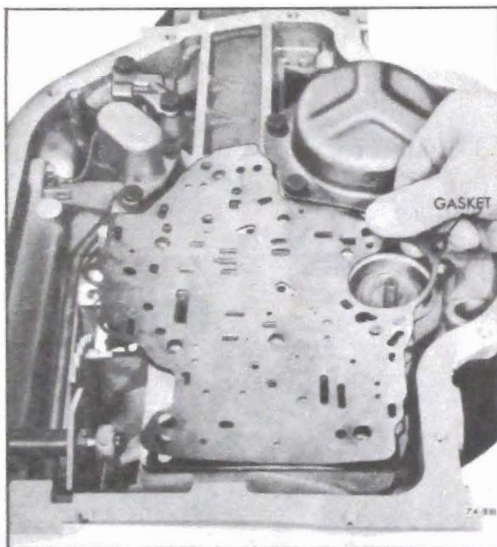

Figure 76-781
1. Install valve body to spacer plate gasket. See Figure 76-781.